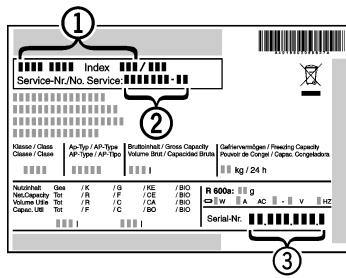

Fig. 6
- Read the appliance designation Fig. 6 (1), service No. Fig. 6 (2) and serial No. Fig. 6 (3) off the type plate located inside the appliance on the left-hand side.
- Notify the customer service, specifying the fault, appliance designation Fig. 6 (1), service No. Fig. 6 (2) and serial No. Fig. 6 (3).